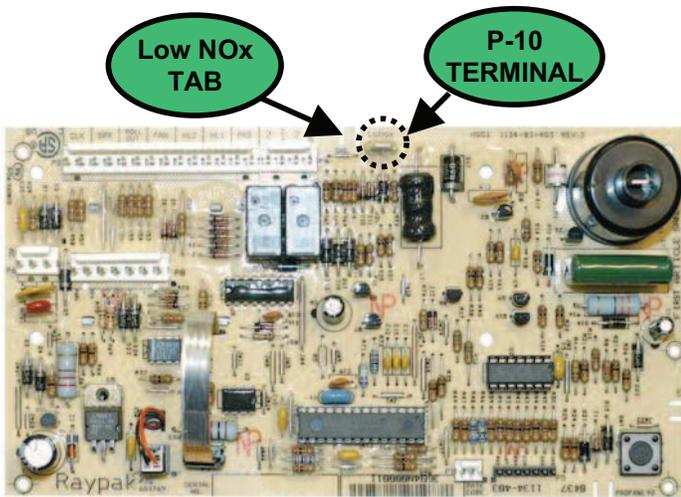
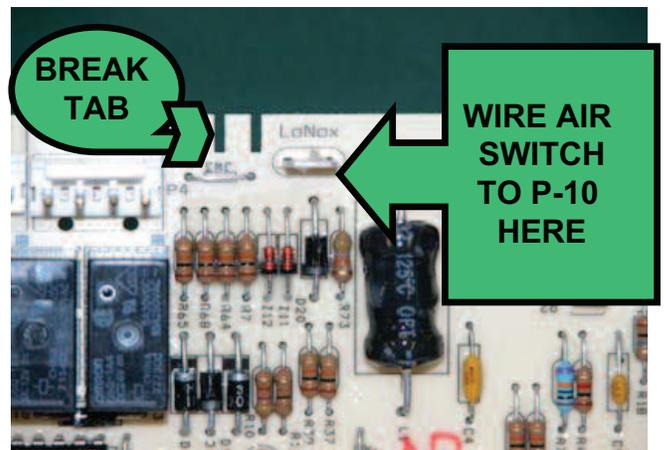

Fig. 12
Fig. 13
1. Locate Low Nox tab and P-10 air switch terminal on the board as shown in **Fig. 12** and **Fig. 13**.